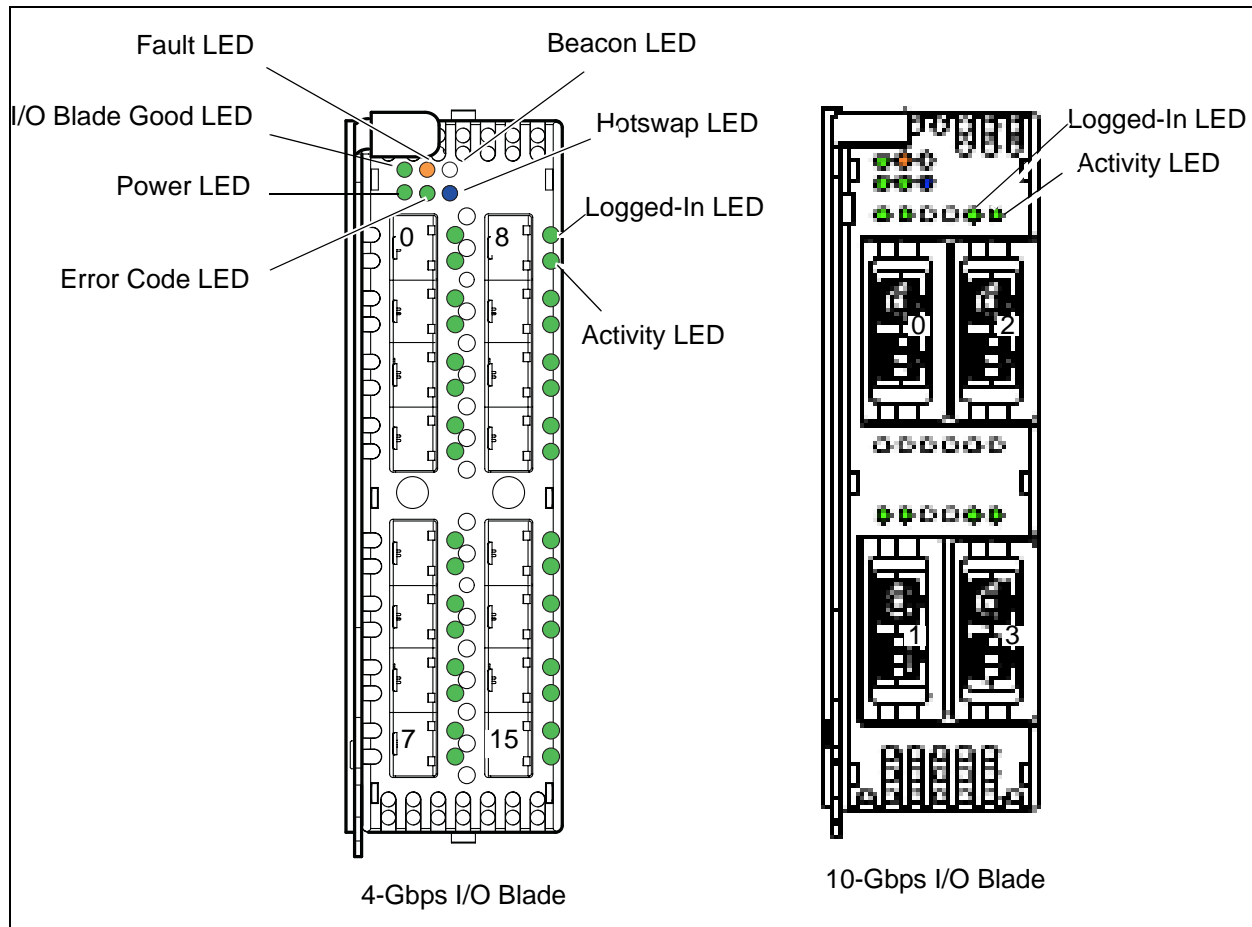

Figure 5-6. I/O Blade LEDs
The I/O blades transmit and receive I/O traffic. Each I/O blade features a set of LEDs, sixteen Fibre Channel (FC) ports, and FC port LEDs as shown in Figure 5-6. The ports configure themselves to communicate with public devices and other switches.